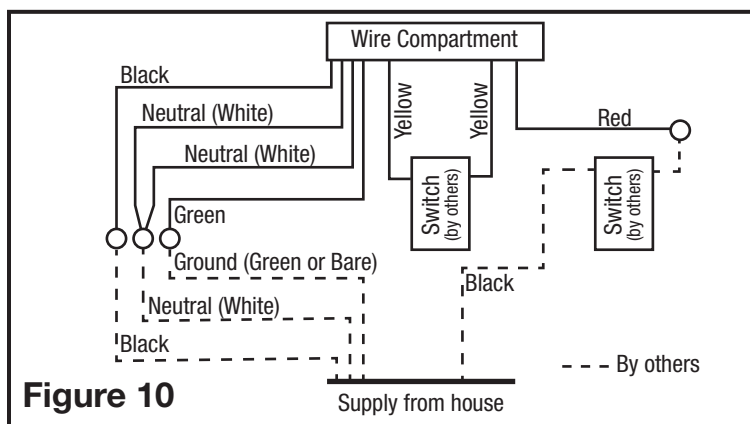

Figure 10
4. Secure the electrical wires to the housing with an approved electrical connector. For two speed fans wired for continuous ventilation, connect the White wires of the fan to the White (Neutral) wire from the power source. Connect the ground wire from the house to the Green wire from the fan housing. Connect the Black wire of the fan to the Black wire (Hot) from the power source. The fan will operate on low speed continuously and boost to high upon a rise in humidity. Using a properly grounded switch, connect 1 yellow wire to each side of the switch. Closing the switch will change from normal to high speed. Using a properly grounded standard duplex toggle switch (such as Leviton 5224-2W, not included) connect the Black wire from the supply to one side of the top and bottom switch. Connect the Red wire (light) from the fan housing to the other side of the top switch. A manual override switch (not included) can be used to provide a manual fan Off function (Figure 10).